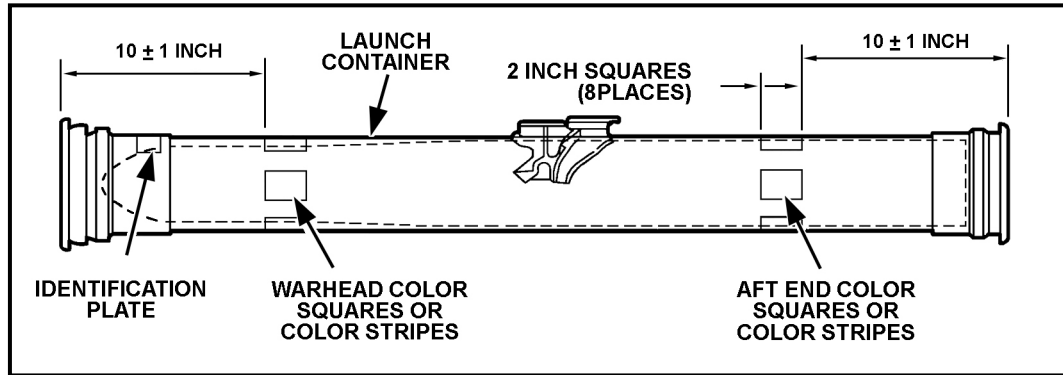

Figure 1-25. Launch container with encased missile.
a. **Handling.** Do not try to remove the missile from the launch container (Figure 1-25). Do not handle the encased missile roughly or drop it. Damage may occur to the motor propellant grain or other components and cause a failure at launch or in flight.